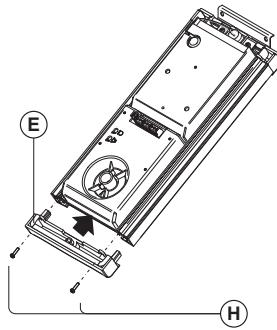

Fig. 8
8. Secure the modules by refitting the plastic cover **(E)** (Fig. 8) and using the screws **(H)** (Fig. 8);